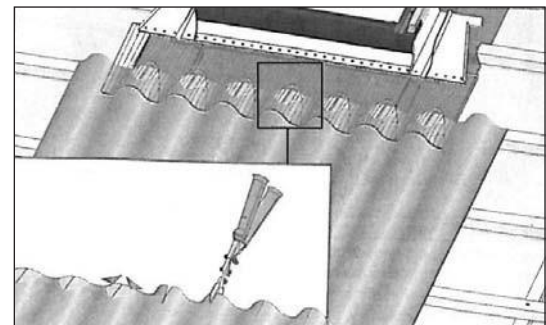

Fig 18
- 21) Cut the top edge of the bottom sheet of iron 25mm and fold down where the mat laps over the iron, to allow the mat to sit flat on the iron. Note: It is important to do this, to prevent creating a catchment area. Ensure there are no jagged edges that may rip the mat (Fig 18).